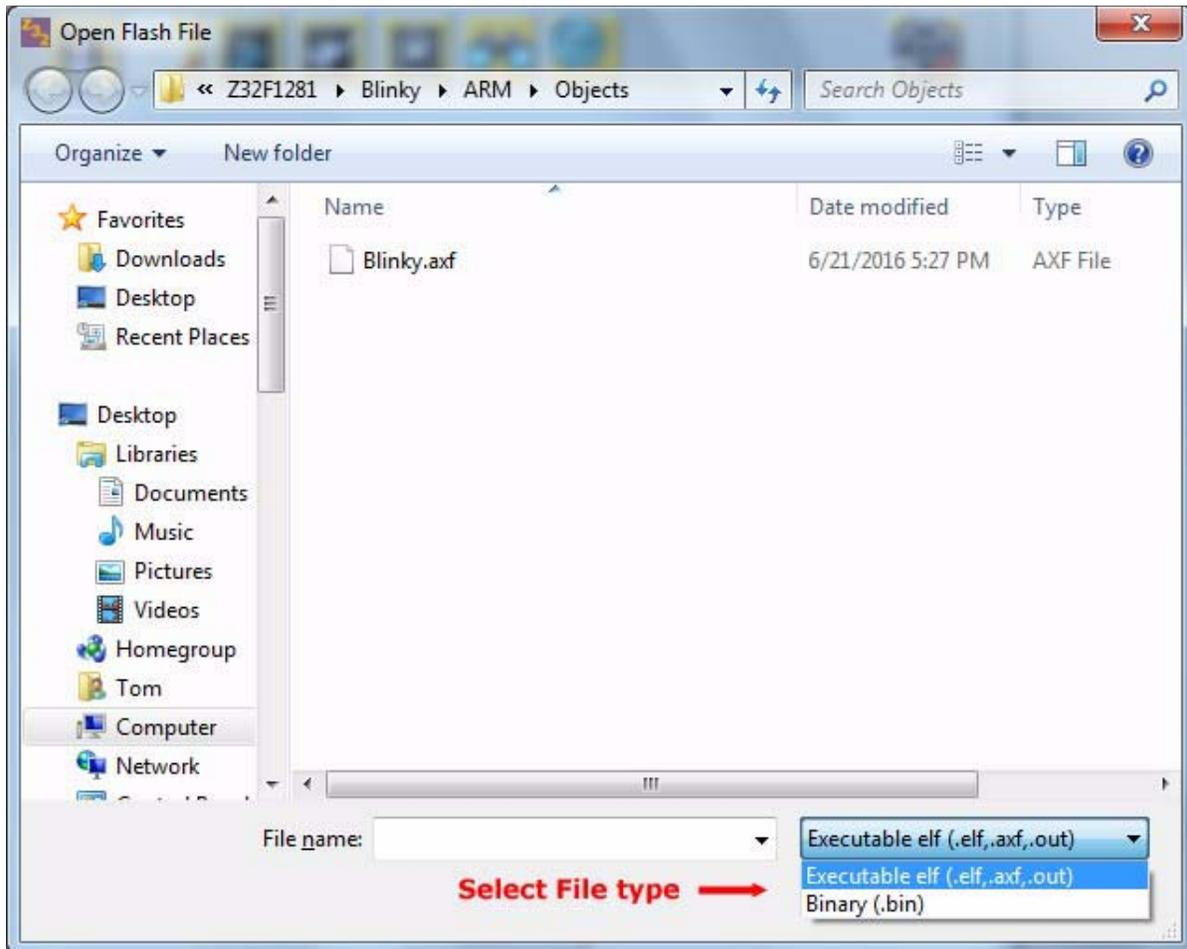

Figure 6. Open File Dialog
2. From the **Open File** dialog (see Figure 6), select a file and click **Open**.